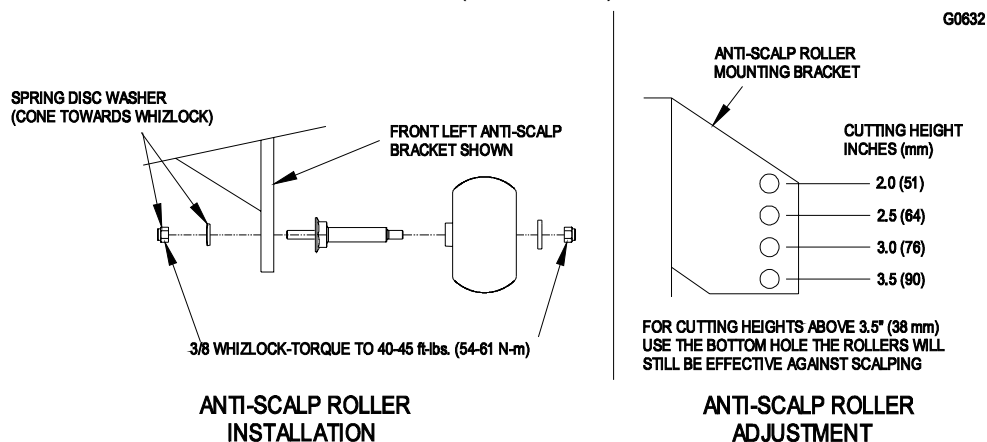

FIGURE 12
- a) Adjust anti-scalp rollers for Normal Operating Conditions. Place rollers in one of the positions shown in Figure 12. Rollers will maintain 3/4 in. (19 mm) clearance to the ground to minimize gouging and roller wear or damage.